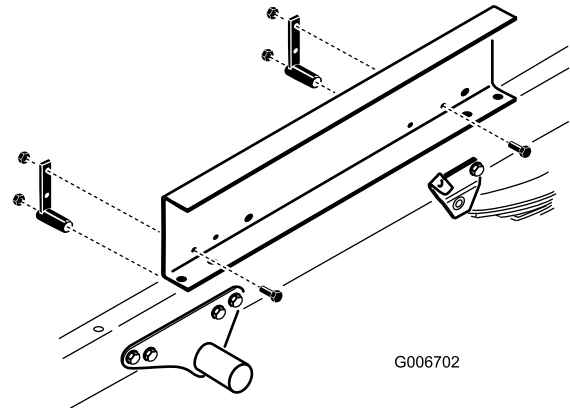

Figure 17
3. Install a new 1/2-13 x 3-1/2" large capscrew thru engine frame and vehicle frame. Insert a lift mounting bracket onto each new capscrew and loosely secure with locknut removed. Bracket to be positioned as shown in Figure 17.